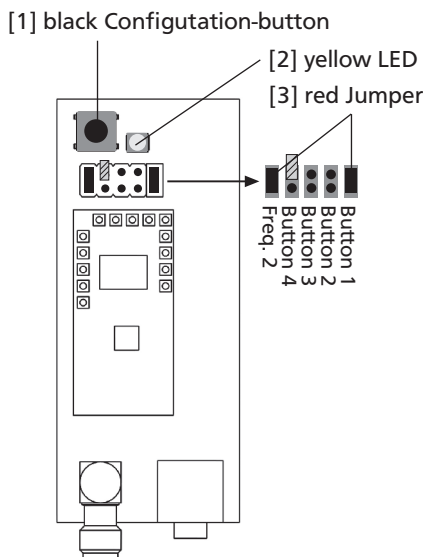

Fig. 4: Frequency 2 selected and Button 1 activated, Jumper on Button 4 inactive (stored).
- d) With the receiver not connected to a machine (not receiving power), open it and set a jumper over both pins on „Freq. 2“. Thus activating that position. *Figure 4* shows a receiver that is set on the second frequency.